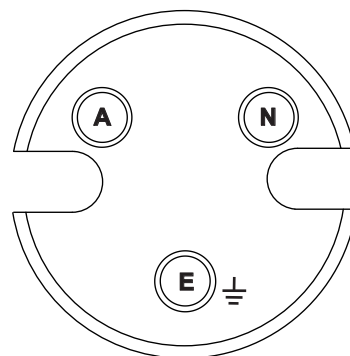

Figure 2: Connections on Pin Housing
4. Loosen the **Terminal Screws** on the sides of the **Pin Housing**. Insert the conductors into the correct connection terminals as shown in Figure 2 and tighten the **Terminal Screws** to make a secure connection between the conductors and terminals.